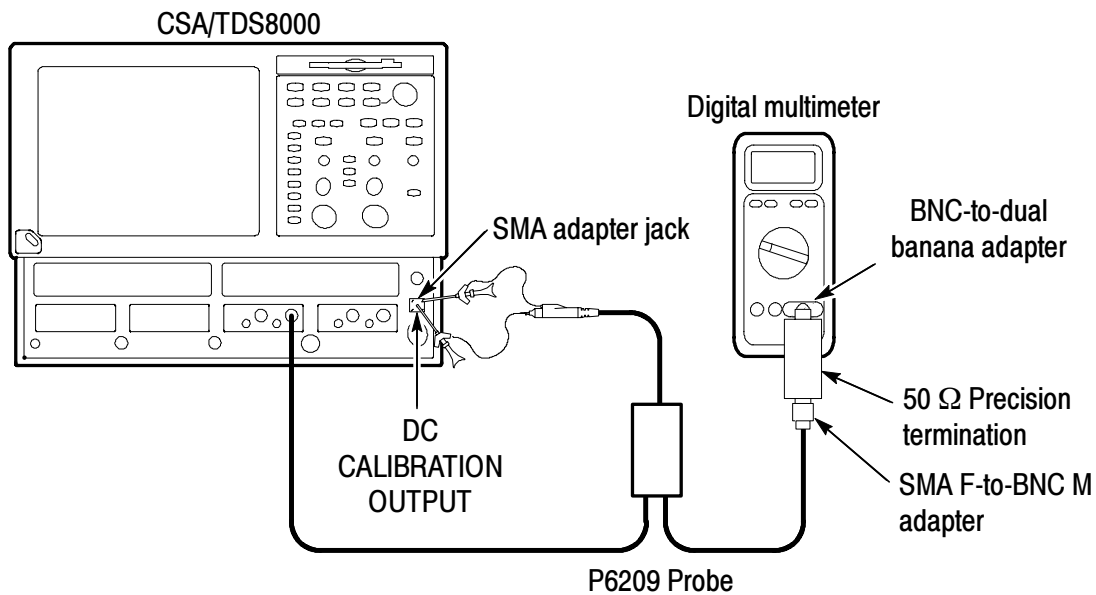

Figure 13: P6209 DC attenuation accuracy setup
6. Connect the multimeter as shown in Figure 13 on page 37.
10. Reconnect the multimeter as shown in Figure 13.